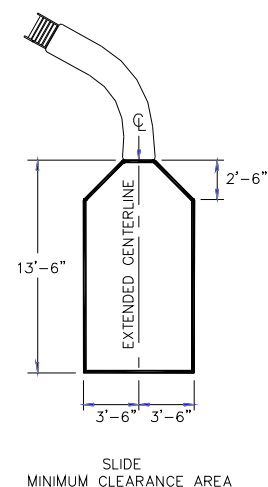

FIG. 34
- A. The minimum clearance distance on either side of the extended centerline of the slide runway shall not be less than three feet six inches (3'-6") at a point no less than two feet six inches (2'-6") from the exit lip of the slide and extending a distance of thirteen feet six inches (13'-6") in front of the slide as shown in **FIG. 34**.